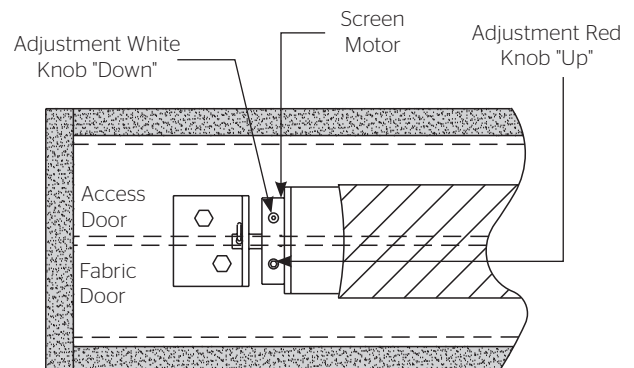

Figure 4
2. When the screen stops, turn the white "down" limit knob (Fig.4) one-quarter turn counterclockwise. Test by raising picture surface approximately two feet, then lower again. Repeat until desired picture surface position is attained.
3. Turn the white "down" limit knob (Fig.4) one-quarter turn clockwise. Test by raising picture surface approximately two feet, then lower again. Repeat until desired picture surface position is attained.